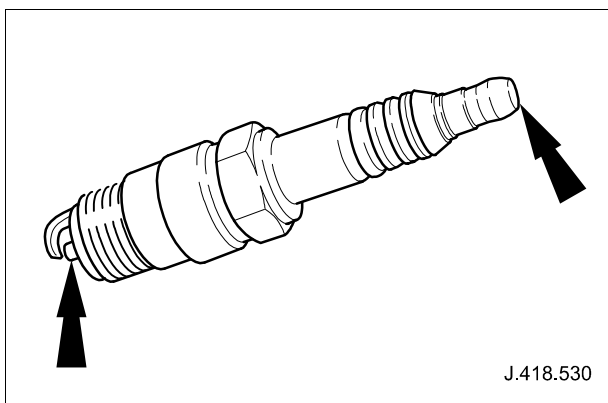

Fig. 17
- 4.5 Measure spark plug resistance between the spark electrode and the coil end of the plug, using a standard ohmmeter. (See Fig. 17)